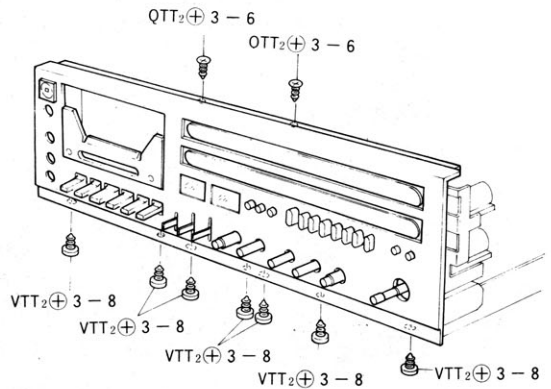

Fig. 12
- 3) Remove 9 screws. (Refer to Fig. 12)